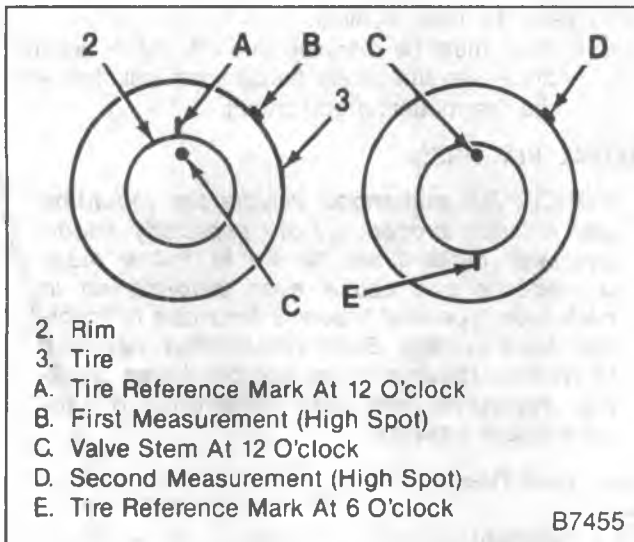

Figure 5—Checking Tire to Wheel Vectoring
- If the tread is uneven, wrap tape tightly around the tire, record the runout magnitude, and mark the high spot locations (figure 5).
5. Break the tire and wheel assembly down on a tire mounting machine and rotate the tire 6 hours (180°) on the rim (figure 5).